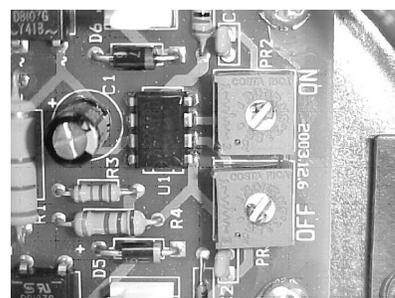

Figure 3. Timer Board Settings Reset
4. Remove screws securing white reflector panel and gain access to electrical box. Locate timer board and reset agitation timer to 2 seconds 'ON' and 3 hours 'OFF' (see Figure 3.).